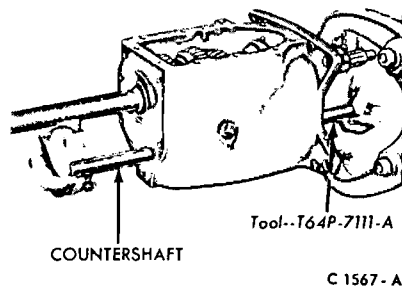

FIG. 4—Removing Countershaft from Case
5. Support the countershaft gear with a wire hook. Working from the front of the case, push the countershaft out the rear of the case as shown in Fig. 4. Lower the countershaft to the bottom of the case with the wire hook. Remove the hook.